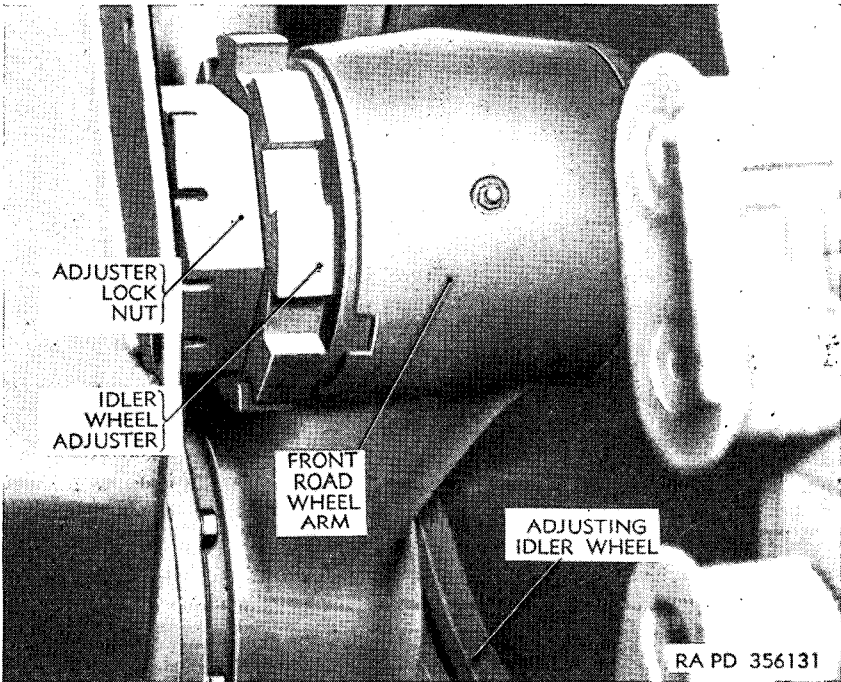

Figure 251. Adjusting-idler-wheel adjuster.
- (2) **ADJUSTMENT.** Track tension is adjusted by rotation of the idler wheel adjuster (fig. 251). Allow the vehicle to coast to a stop on level ground without applying the brakes. This procedure equalizes track tension over the entire track. To adjust the track tension, proceed as follows. Remove the front fender and dust shield (par. 266).